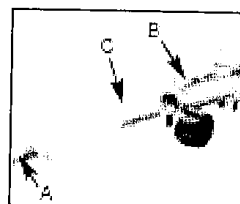

Fig. 3A
1. Remove the cover from bottom shaft end (A). Push latch (B) and simultaneously insert the bottom rod to the coupler (see Fig. 3A).
2. Place and lock the latch in the primary drive-shaft hole (C), see Fig. 3A.